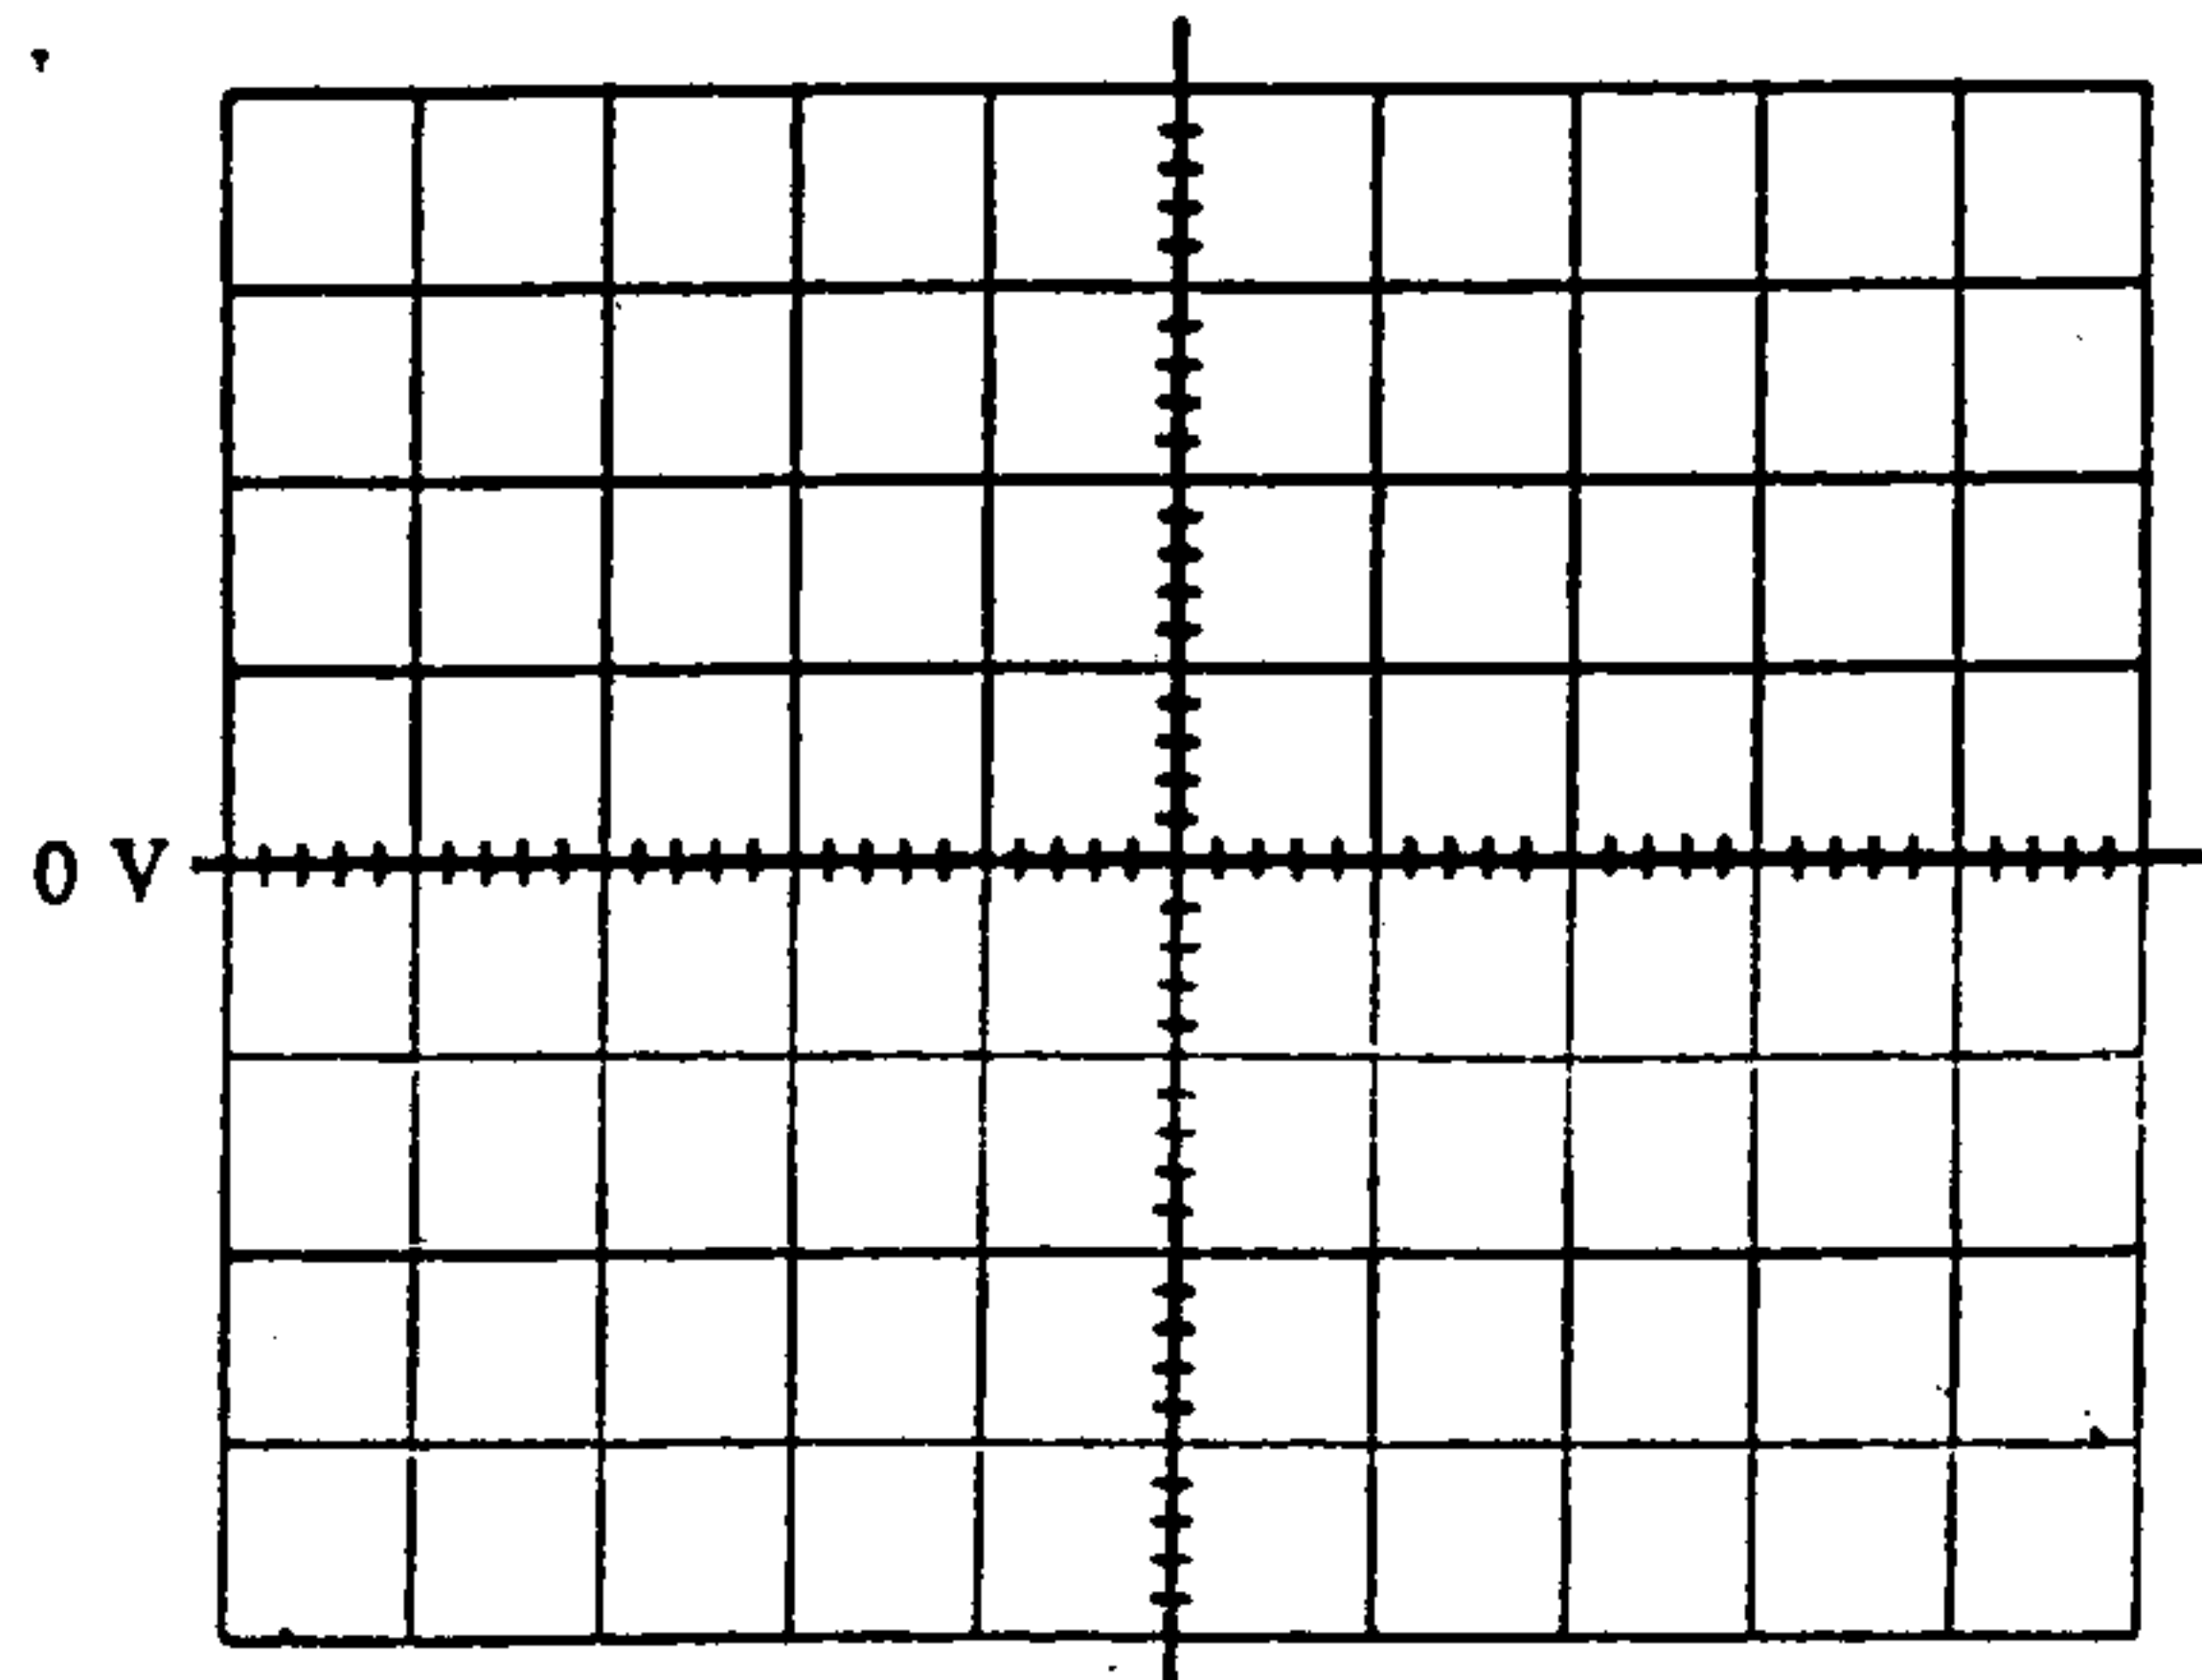
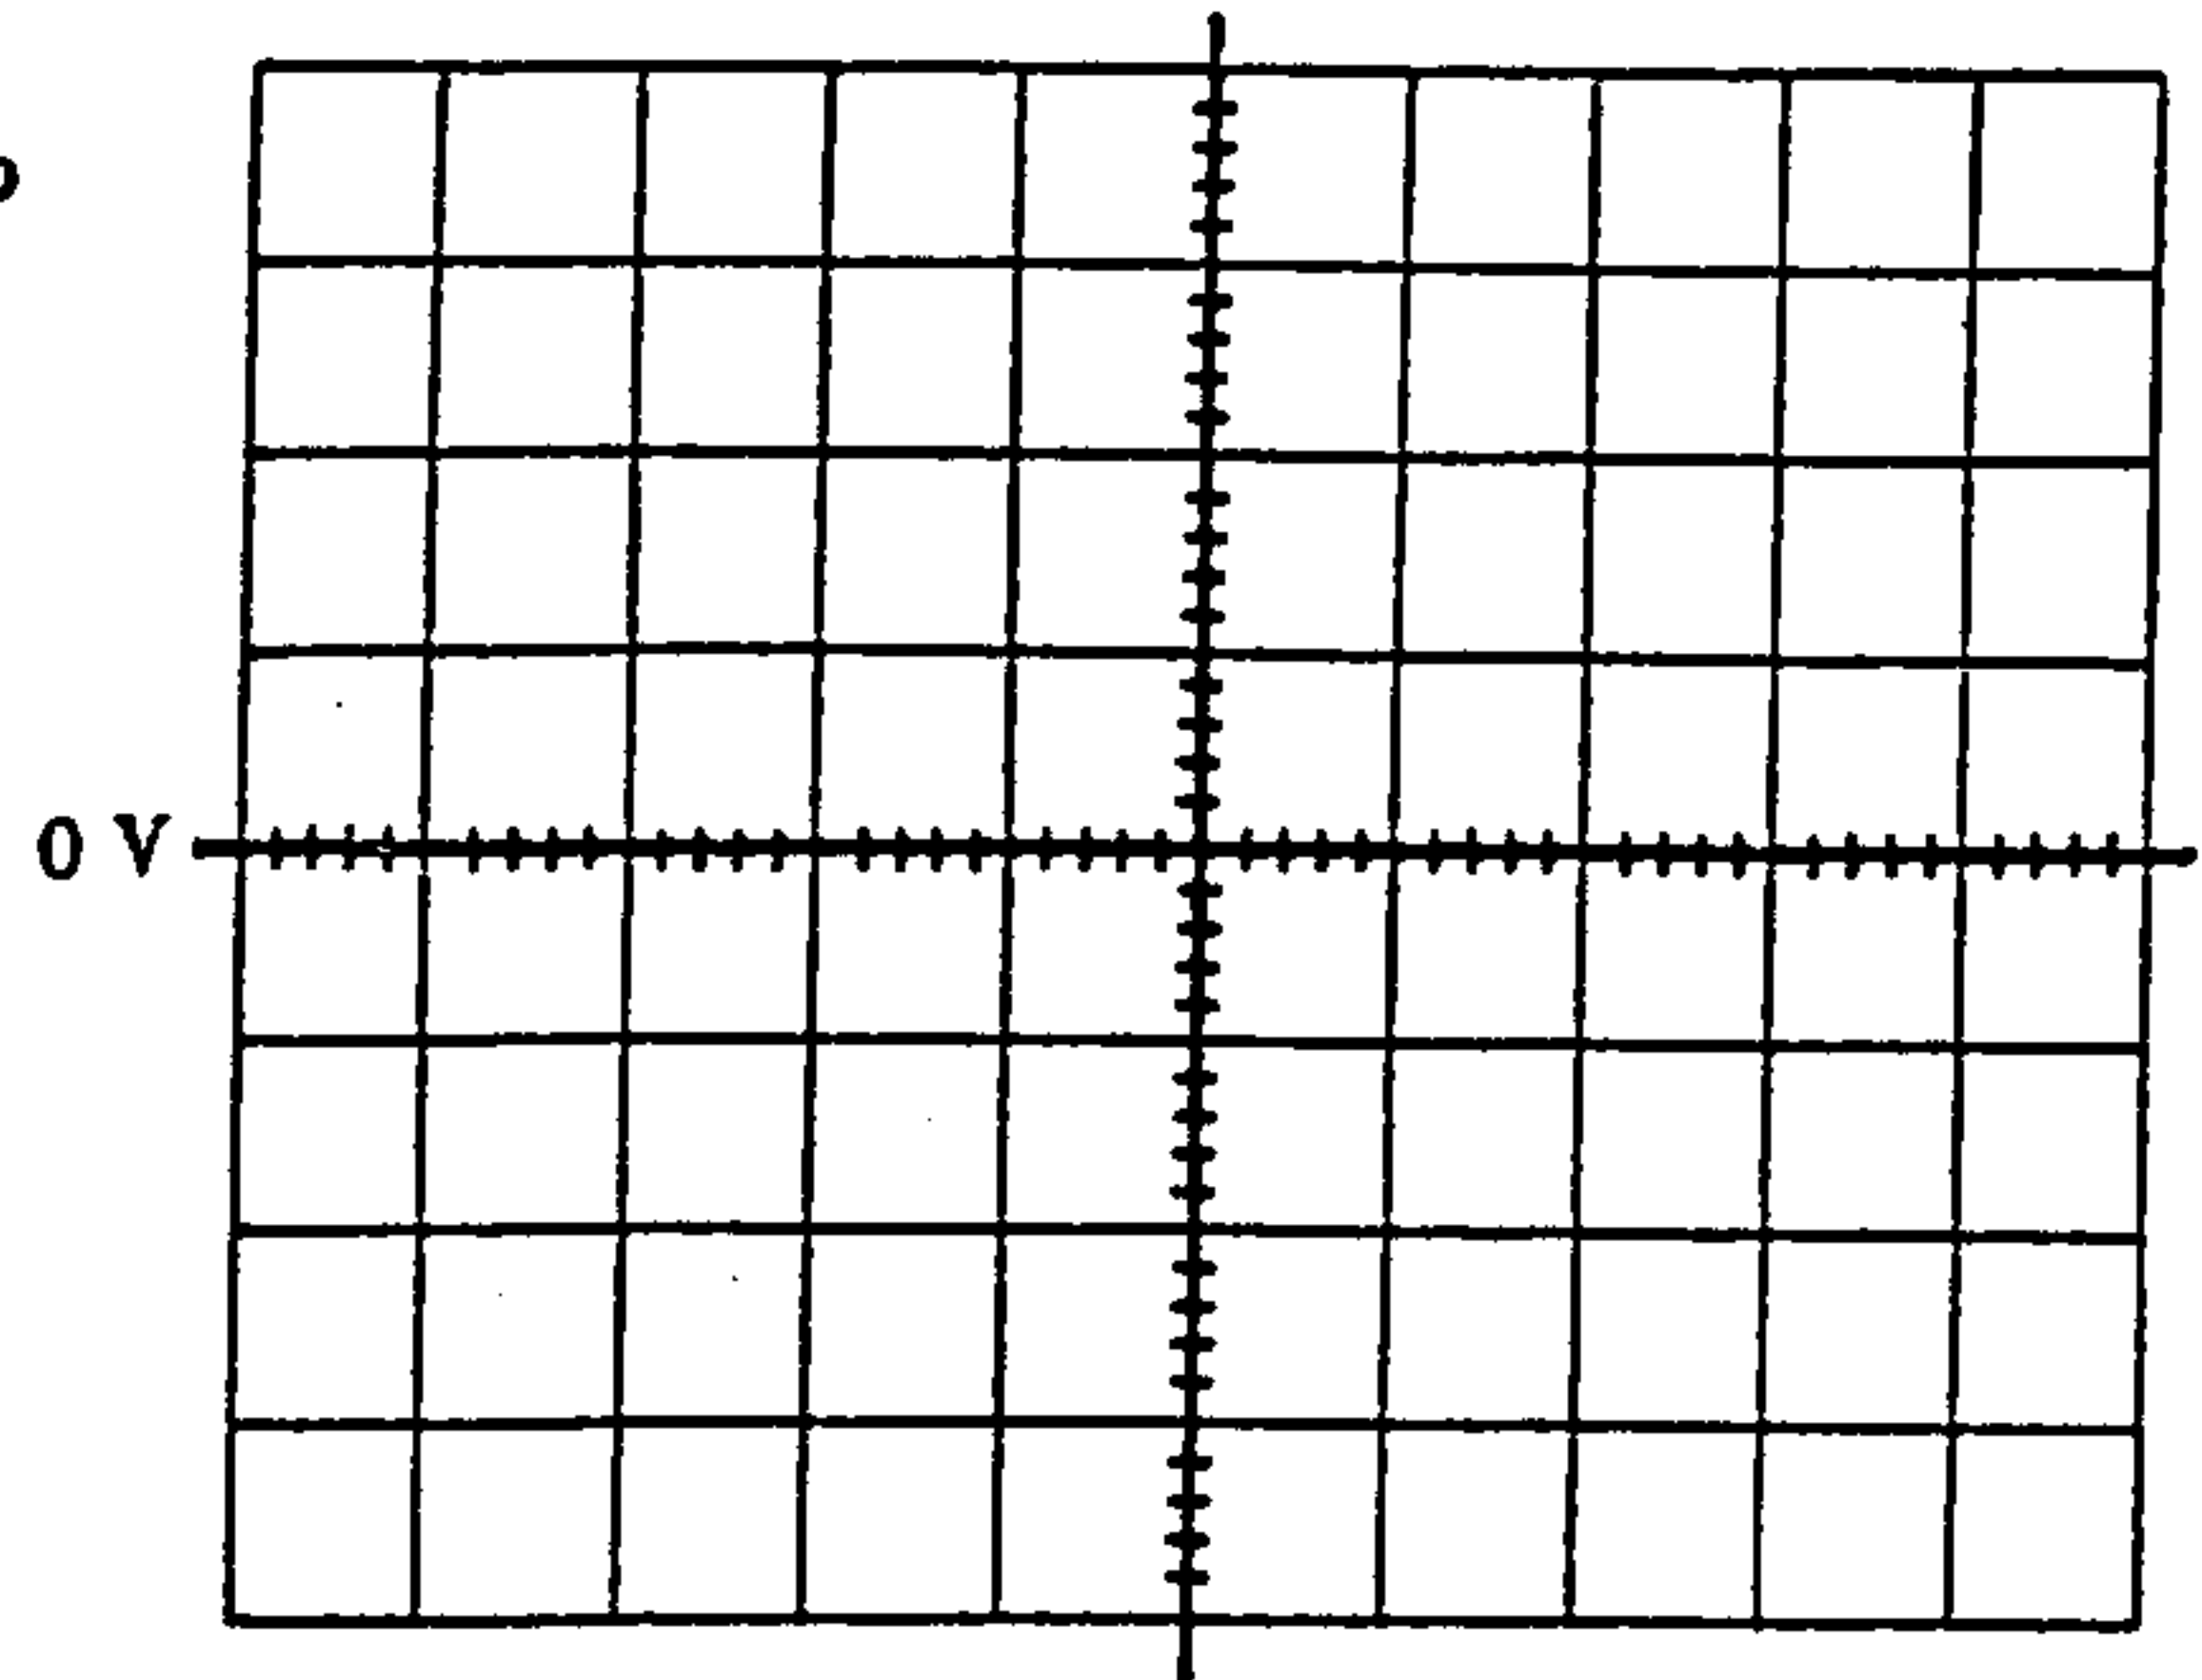

Figure 6-4
Figure 6-5
- h. Using the results of Parts 2(f) and 2(g) sketch the expected waveform for  $v_o$  on Fig. 6.4. Use the horizontal axis as the  $v_o = 0$  V line. Record the chosen vertical and horizontal sensitivities below:
- i. Using the sensitivities of Part 2(h) use the oscilloscope to view the output waveform  $v_o$ . Be sure to preset the  $V_o = 0$  V line on the screen using the GND position of the coupling switch (and the DC position to view the waveform). Record the resulting waveform on Fig. 6.5.
How does the waveform of Fig. 6.5 compare with the expected waveform of Fig. 6.4?